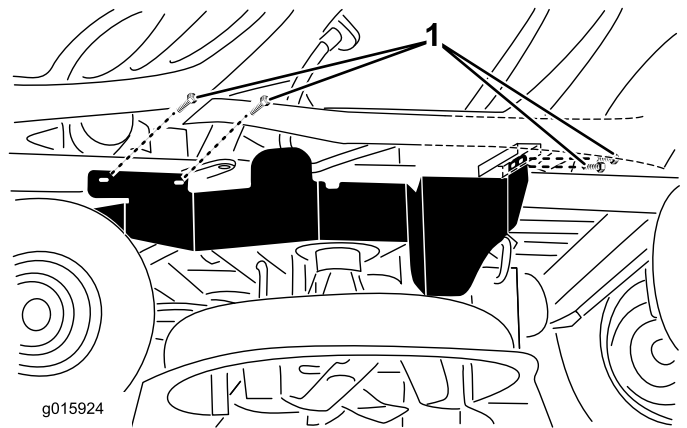
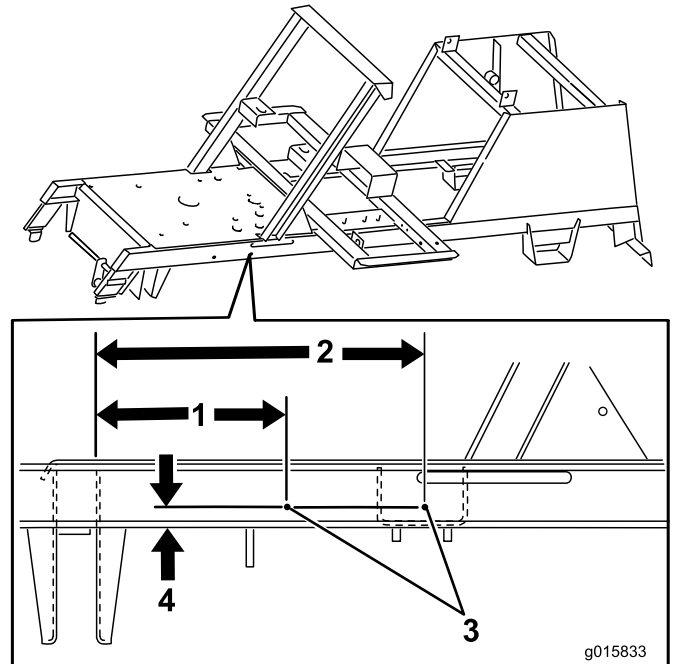
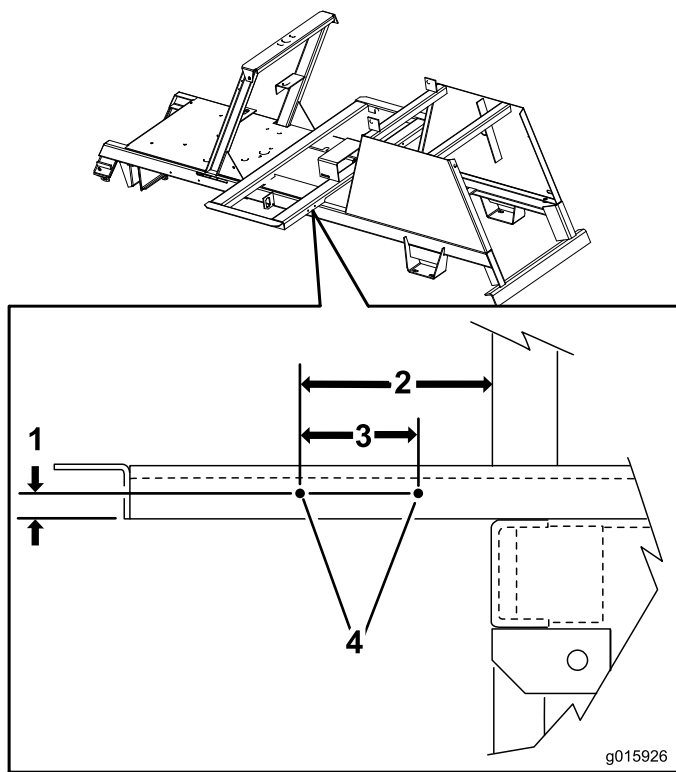

Figure 1
Figure 2
Figure 3
2. Drill 4 holes with a diameter of 3.4 mm in the locations shown in Figure 1, Figure 2 and Figure 3. Install the left belt guard using the fasteners listed in Figure 1.